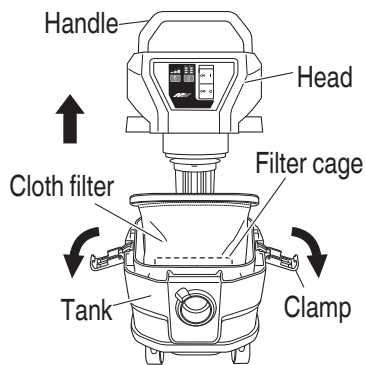
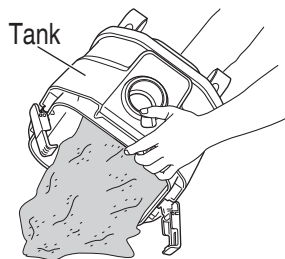

Fig. 12
Fig. 23
- (1) Detach two clamps, pull up the head by the handle and remove it from the tank. (see Fig. 12)
- (2) Remove the filter and the filter cage inside the tank.
- (2) Attaching filters
- (1) Detach two clamps, pull up the head by the handle and remove it from the tank. (see **Fig. 12 on page 46**)
- (2) Lightly striking the inner side of the cloth filter several times, remove dusts attached to the cloth filter.
- (3) Tilt the tank and dump dusts. (see **Fig. 23**)
- (4) Attach the cloth filter, the filter cage, the head, and the clamp in the initial positions.